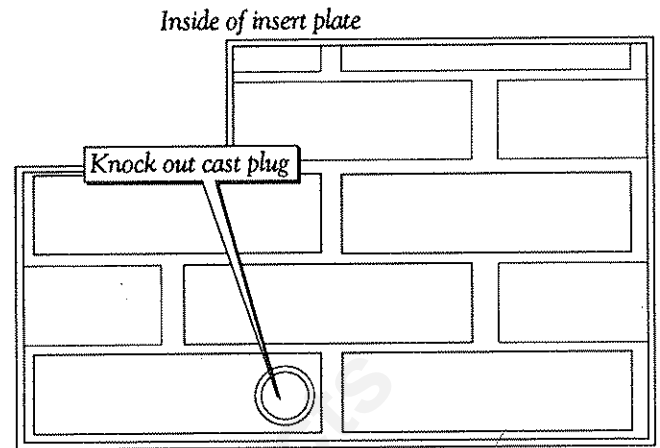

Figure 22. Hit the insert plate with a hammer at the knockout plug.
- 1) Use a hammer to knock the appropriate left or right knockout from the side of the fireplace cabinet. Figure 22. You may do this either while the unit is intact, or after having removed the plate.